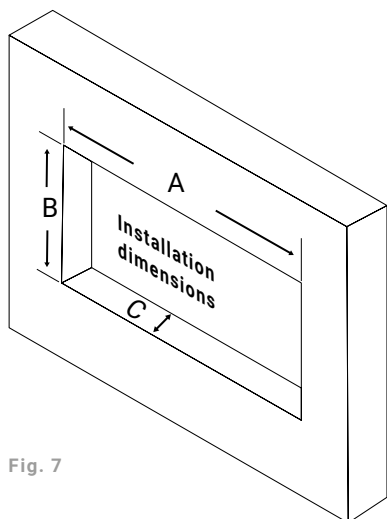

Fig. 7
1. Choose a location that is not susceptible to moisture and complies with the prescribed minimum clearances. Ensure that the opening is large enough for the recess dimensions (see figure 7).